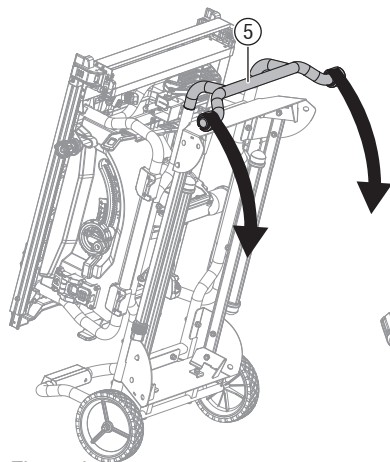
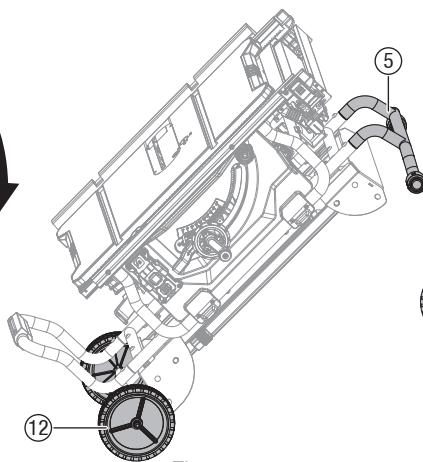

Fig. 13d
Fig. 13e
- Fold in other two stand legs (11). To do this, push the lock pins (32) until they unlock the stand legs (11) from holes, then swing the stand legs downward until the stand legs are locked with the lock pins (32) engage the holes.
- Grasp the handle I (5) firmly and tilt saw to you, push the saw to the desired location (Fig. 13e) then either open the stand or store the saw (Fig. 13d & 13f) in a dry environment.